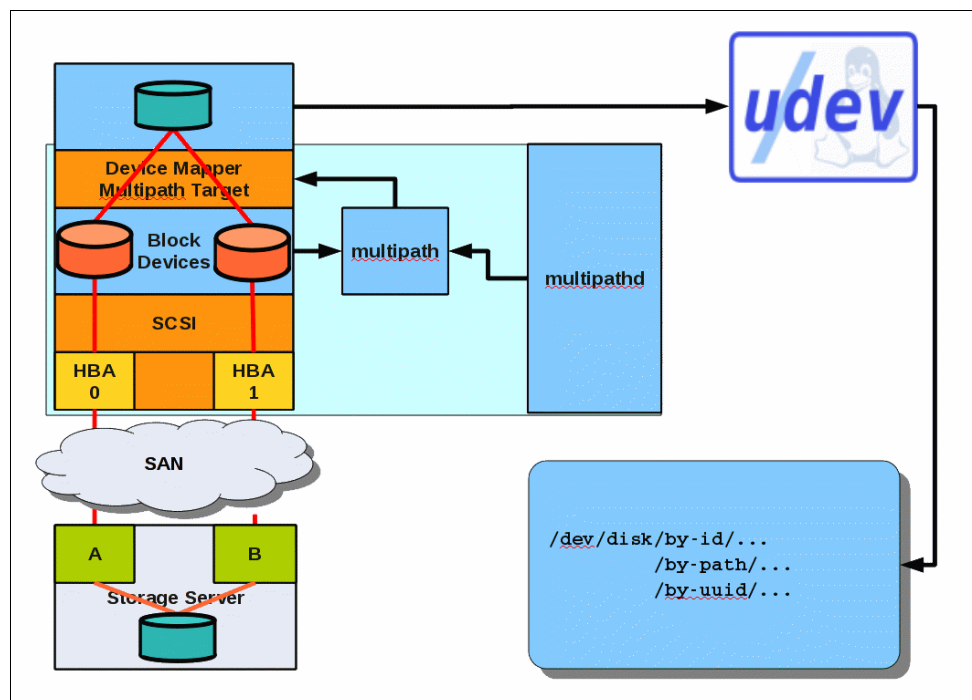

Figure 6-2 Device mapper multipathing in the Linux storage stack
Linux provides its own native multipathing solution. It is based on the *device mapper*, a block device virtualization layer in the Linux kernel. Therefore it is called DM Multipath. Figure 6-2 illustrates how DM Multipath is integrated into the Linux storage stack.
**Tip:** When you create the multipath.conf file, under the /etc directory, make sure to copy and paste the script from the RHEL 6 Storage Administration Guide without spaces, because it can give a keyboard error when starting the multipath server. See Figure 6-2 on page 98 for an example of a multipath set up.